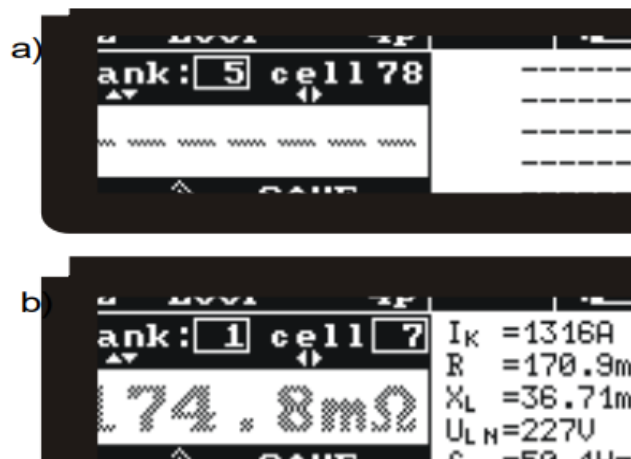

Fig. 27 The layout of the screen in the store-in-memory mode: a) empty cell b) cell with the recorded result (the main result is displayed in grey)
- Press the key ENTER. The currently used bank number and the address of the currently used cell will be displayed on the screen (Fig. 27). The border around the bank number means that at least one cell in the bank is occupied. The border around the cell number means that the cell is occupied.